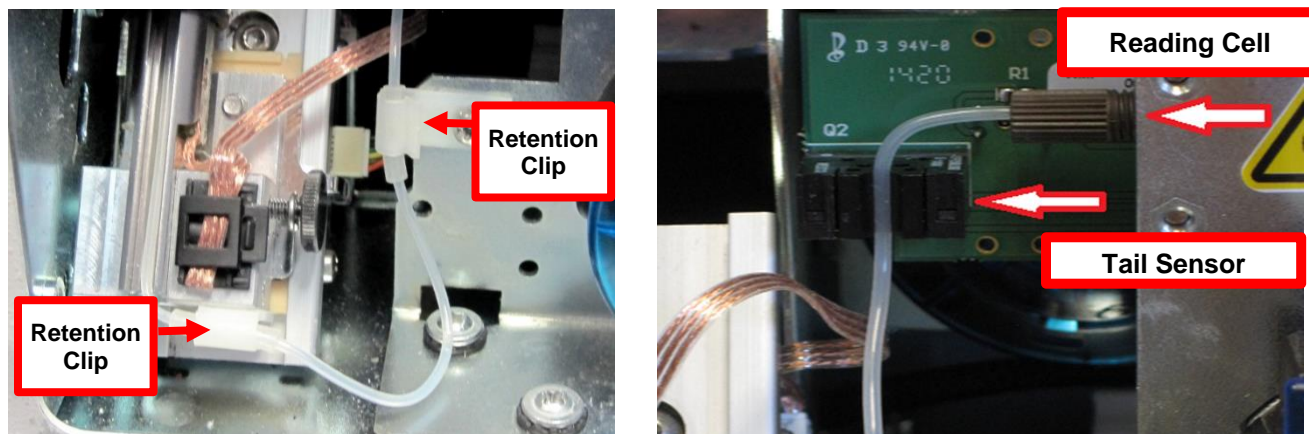

Figure 8
8. Remove the old Needle-to-Reading Cell Tubing by removing the tubing from the Retention Clips, the Tail Sensor, and the Reading Cell. The tubing at the Reading Cell is removed by turning the brown connector in a counter-clockwise direction. (Figure 8)